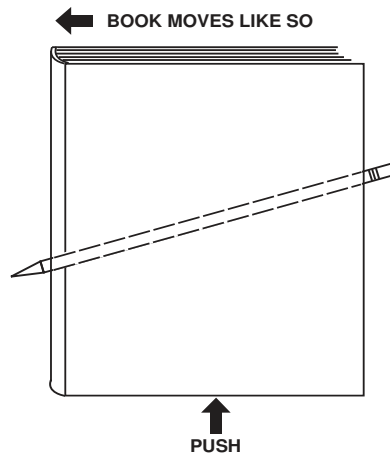

FIGURE 8
1. The basic rule of tracking a conveyor belt is the belt moves toward that end of the roll/idler that it contacts first. The reader can demonstrate this rule very simply by laying a round pencil on a flat surface in a skewed position. Lay a book across the pencil and gently slide it with your finger in a line directly away from you. See Figure 8 for example.